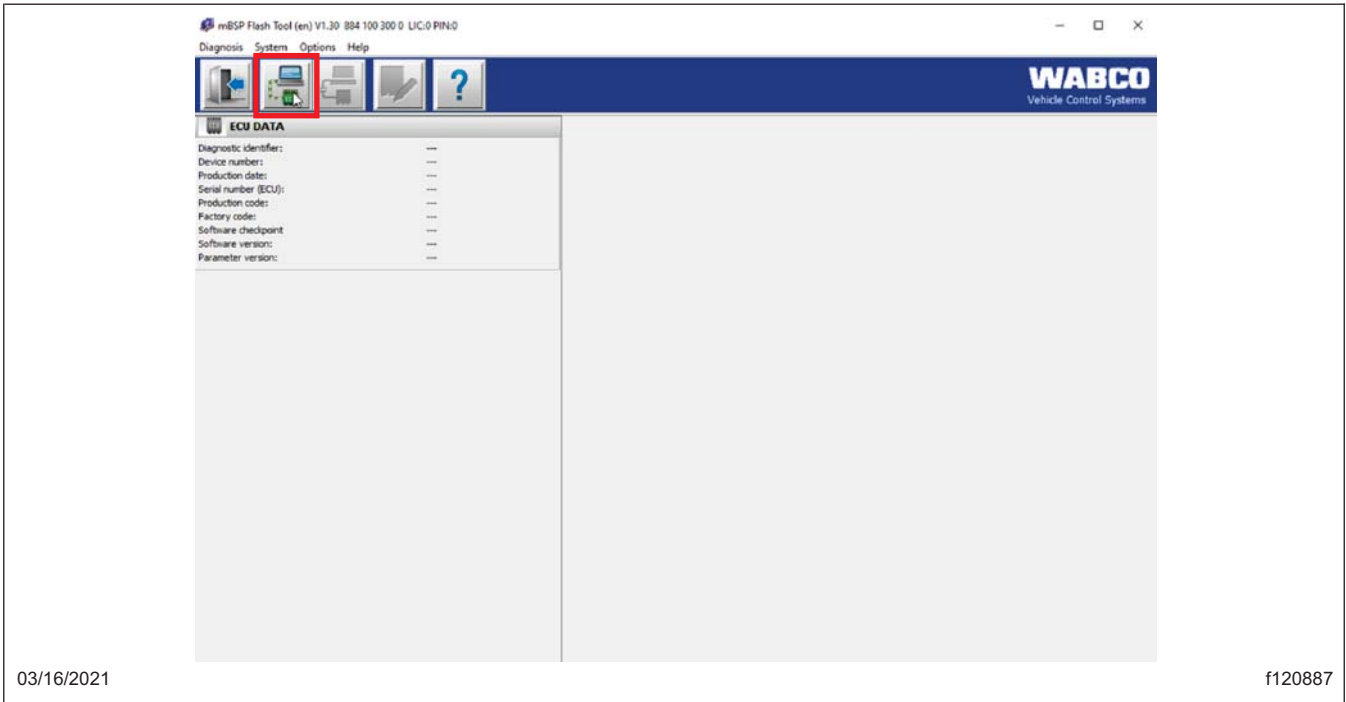

Fig. 27, Initialize ECU and Switch to Diagnostic Mode
12. If the ECU does not automatically connect, select the button in Fig. 27 to 'Initialize ECU and switch to diagnostic mode.'